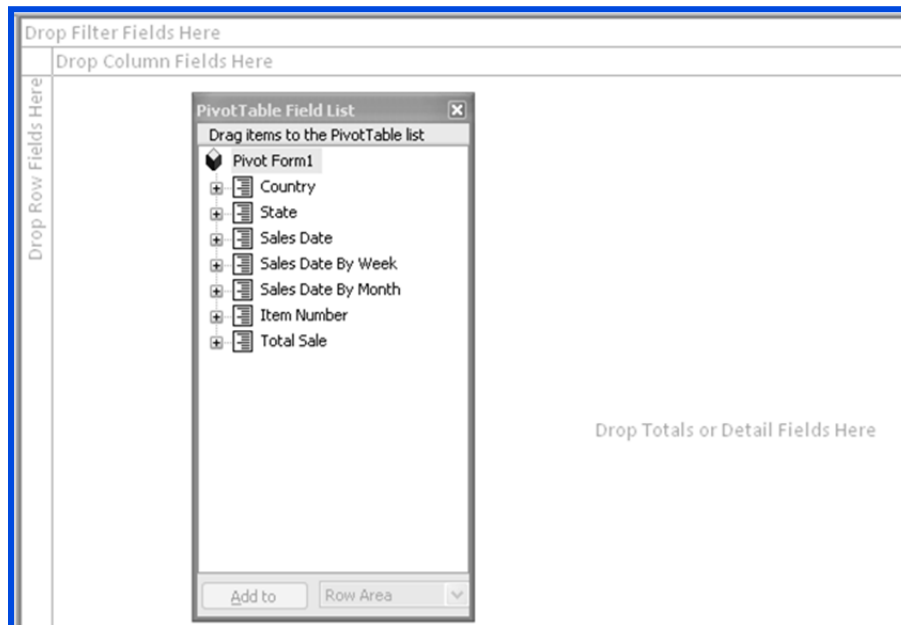

Fig. 2.3.17. The Pivot Table window
2. The *Pivot Table* window appears along with the field list, as shown in Fig. 2.3.17.